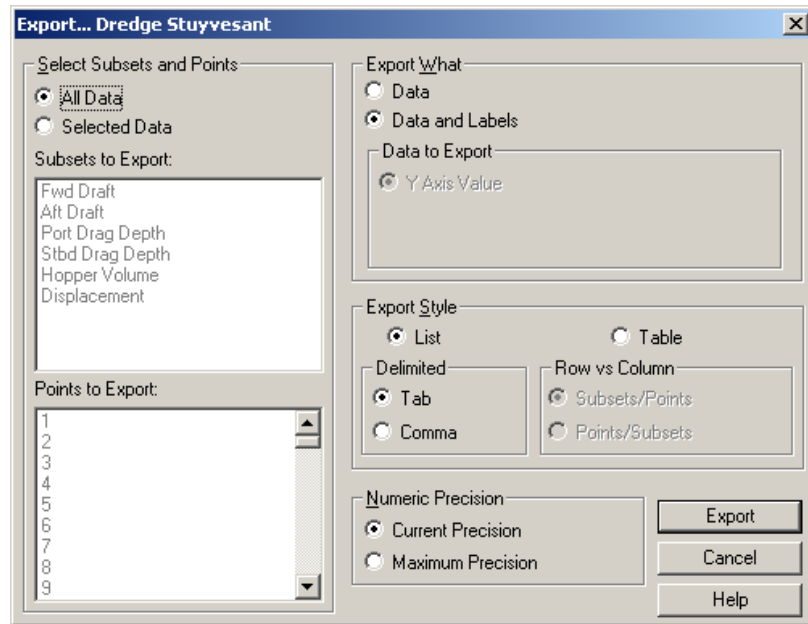

Figure 2.19 Data export window
3. Click **Export**. The data export window will then appear as shown in Figure 2.19.